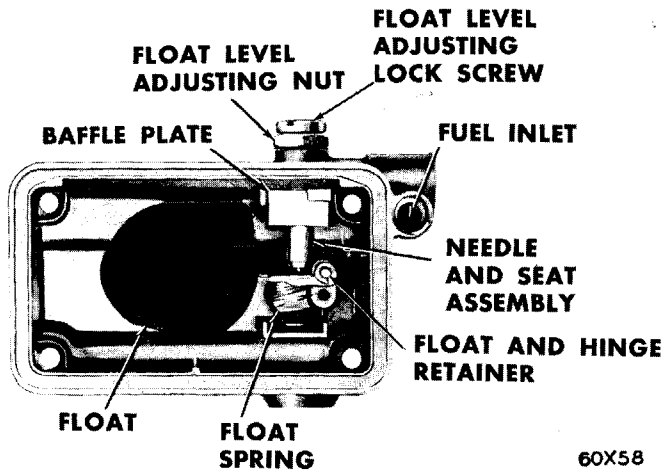

Fig. 8—Primary Fuel Bowl Assembly
- (11) Remove the primary bowl vent valve assembly.
- (12) Remove the float retainer clip, then slide float and spring out of float chamber (see Figure 8). Remove the float baffle.